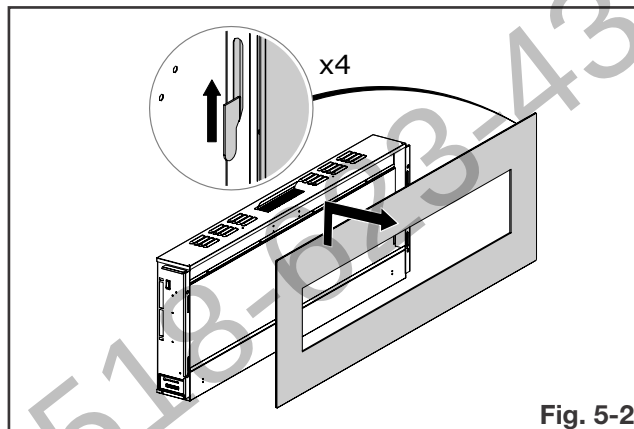

Fig. 5-2
- Carefully lift the front surround up and away from the appliance (**Fig. 5-2**). Place it face down on a soft, non-abrasive surface.